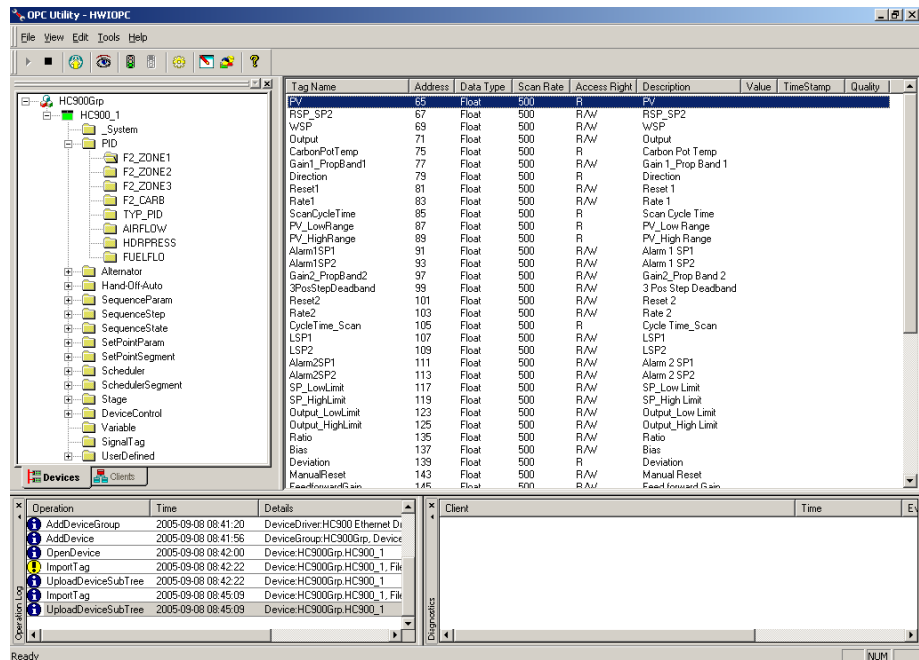

Figure 3 OPC Utility – Imported HC900 Tag Database
- **OPC Utility**, used to configure the address space of the OPC Server by importing points via HC Designer export files to the server's address space (Figure 3), to manually add points to the server, to query the information of OPC clients connecting with OPC Server, to monitor the internal value of device tag and the real time value of OPC items, and to diagnosis events occurring in OPC Server. It can also export all tags information in the address space of OPC Server.
See Figures 3 and 5. After creating a device (controller), you can import all tag groups and tags with their tag names into the address space of OPC Server for the device from a CSV file exported by HC Designer 3.0 for the corresponding controller. During the Import function, you can select the method for dealing with tag name duplication and tag Modbus address duplication, including Overwrite, Co-exist and Retain, useful for edits or additions. After import, an import log file records the importing results for each point in the imported file and any error messages.